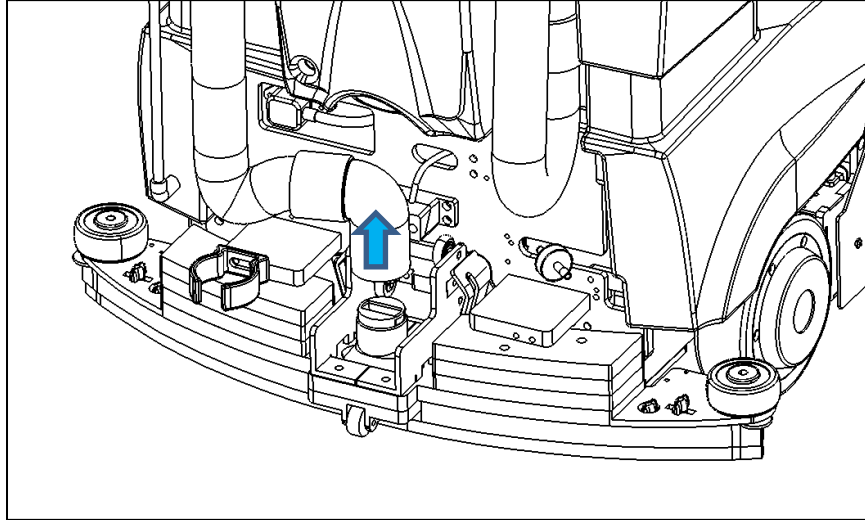

Fig. 1
1. Remove the vacuum hose (Fig. 1), keeping a cloth handy in case of dirty water spillage.